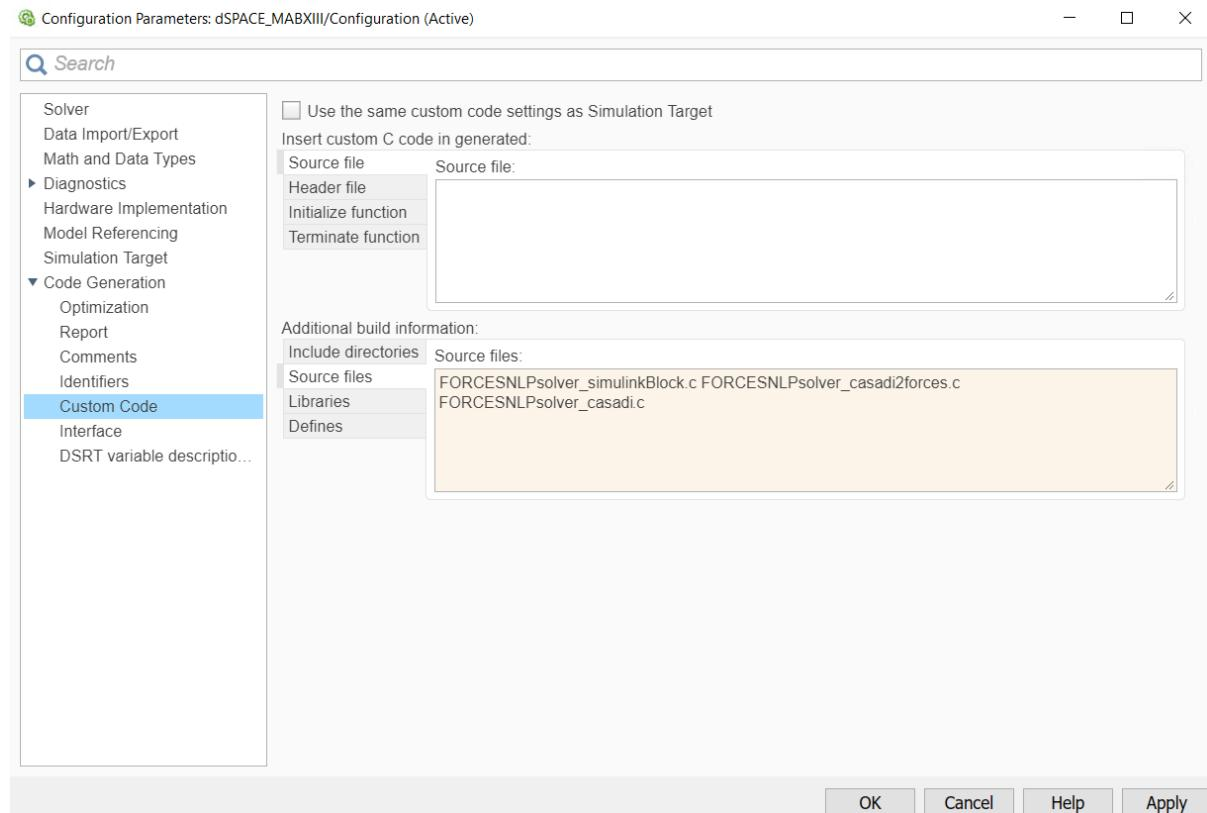

Figure 13.67: Add the source files used for the code generation.
- 11) In the “Code Generation/Custom Code” tab, add the source files (see Figure 13.67):